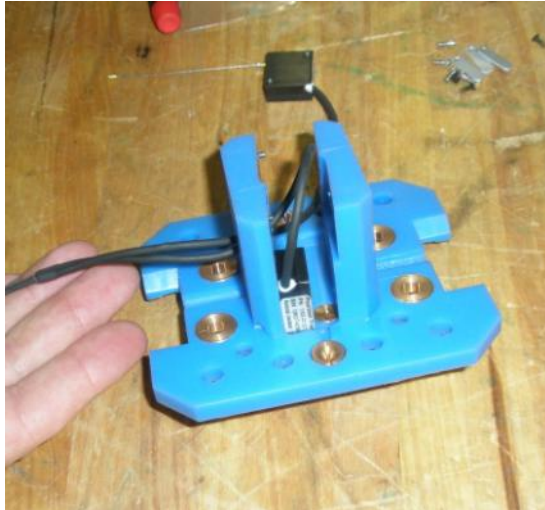
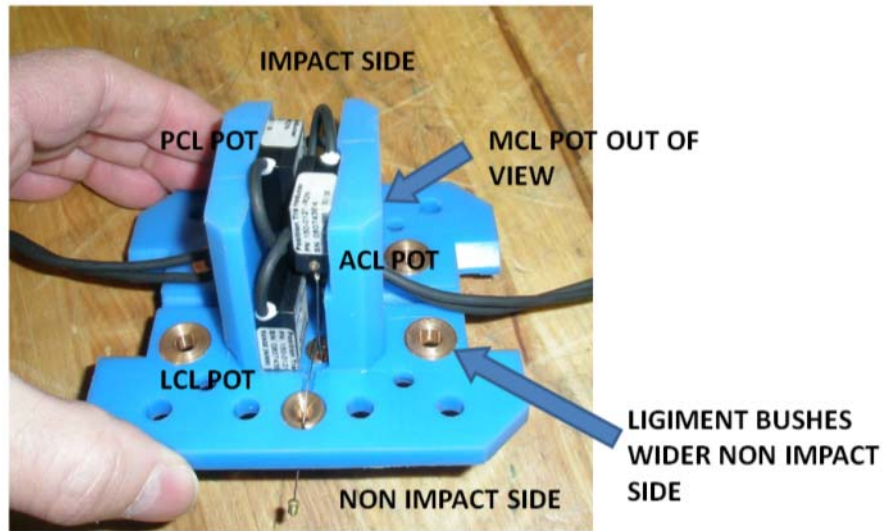
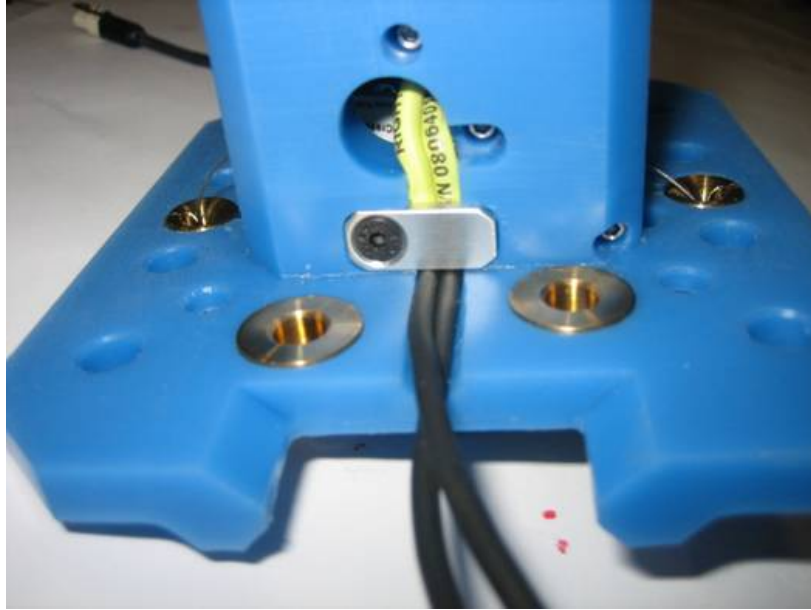

Figure 54 . Meniscus string pot assembly wire feed
Figure 55 . Meniscus with all string pots assembled. String pots identified
Figure 56 . Meniscus wire clamp
Referring to Meniscus assembly (133-5313) feed the connector of one of the right hand (RH) pull string pots through the inner side of one of the central holes, see Figure 54. The RH and the LH string pots can be identified from the serial number; the RH has an R at the end of the number and the LH an L. The two RH pull string pots are positioned closest to the main flange of the meniscus, one is shown fitted in Figure 54. Attach the string pot with the #2-56 x ¼ long cap head screws making sure the pull wire is directed towards the furthest away outer bronze bush. Fit the other RH pull string pot in the same way on the opposite side. Pass the pull wires through their designated bushes see figure 55. Carry out the same procedure with the Left hand pull string pots, the pull wires are directly in line with the two inner bushes. Feed the pull wires through the bushes. Make sure electrical wires are inside the cavity as much as possible then run cables through channels both sides and clamp with retaining plate see Figure 56. Fit assembly to knee block bottom ensuring pot wires are in their grooves. The threads of the four M5x10 low head cap screws used to retain the meniscus will need to have low strength thread lock applied (e.g. loctite 222). This will prevent the screws coming lose when in service.